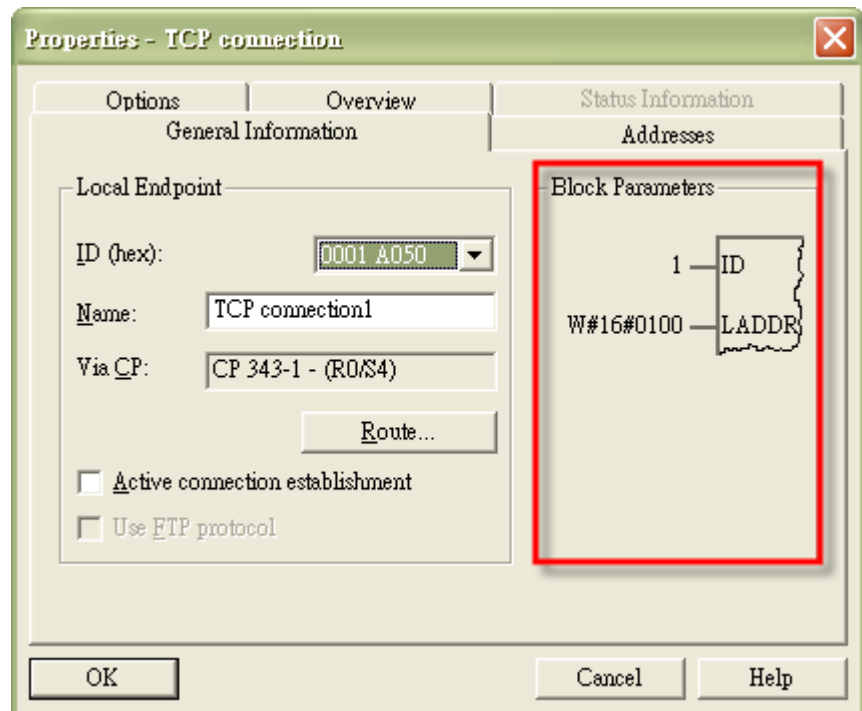

Figure 14
The configuration program leads you to configure the property of the “TCP connection” . As demonstrated in Figure 14, the “General Information” tab shows the ID and LADDR parameters. These two parameters are the identification number of this communication channel, and are used later.
- 1) The “ID” and “LADDR” are used to identify the connection channel; they must match the values in Figure 14.
- 1) The “ID” and “LADDR” must also match the values in Figure 14.